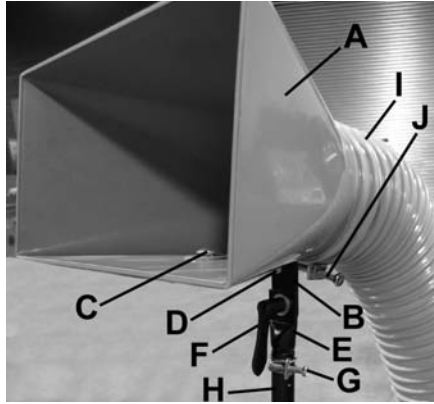

Figure 4
1. Assemble dust hood (A) Fig.4 to "L" bracket (B) using 2 carriage bolts (C) and 2 hex. nuts (D).
2. Assemble dust hood and "L" bracket to the arm bracket (E) and fix together using lock handle (F).
3. Insert arm bracket (E) into the corresponding end of the arm support (H) and lock into place using the arm support clamp (G).
5. Place hose clamp (J) over hose (I) and slide hose over the dust hood (A). Fix hose to dust hood by tightening hose clamp fixing screw as shown.